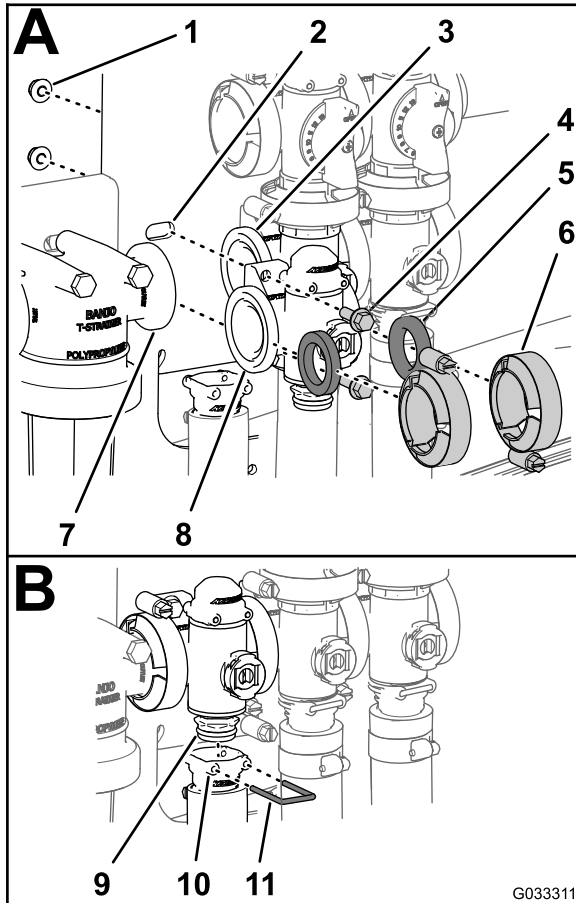

Figure 75
1. Align a gasket between the flanges of the rate-control-valve manifold and the pressure-filter head (A of Figure 75).
2. Assemble the rate-control-valve manifold, gasket, and pressure-filter head with a clamp tightened hand-tight (A of Figure 75).
3. Align a gasket between the flanges of the rate-control valve and the agitation-valve manifold (A of Figure 75)
4. Assemble the rate-control-valve manifold, gasket, and agitation-valve manifold with a clamp tightened hand-tight (A of Figure 75).
5. Assemble the rate-control valve to the valve mount with the 2 flanged-head bolts and 2 flanged locknuts (A of Figure 75) that you removed in step 3 of Removing the Rate-Control-Manifold Valve \(page 65\) and torque the nut and bolt to 1,017 to 1,243 N·cm (90 to 110 in-lb).
6. Assemble the outlet fitting onto the lower end-cap fitting of the manifold valve (B of Figure 75).
7. Secure the end-cap fitting to the outlet fitting by inserting a retainer into the socket of the outlet fitting (B of Figure 75).